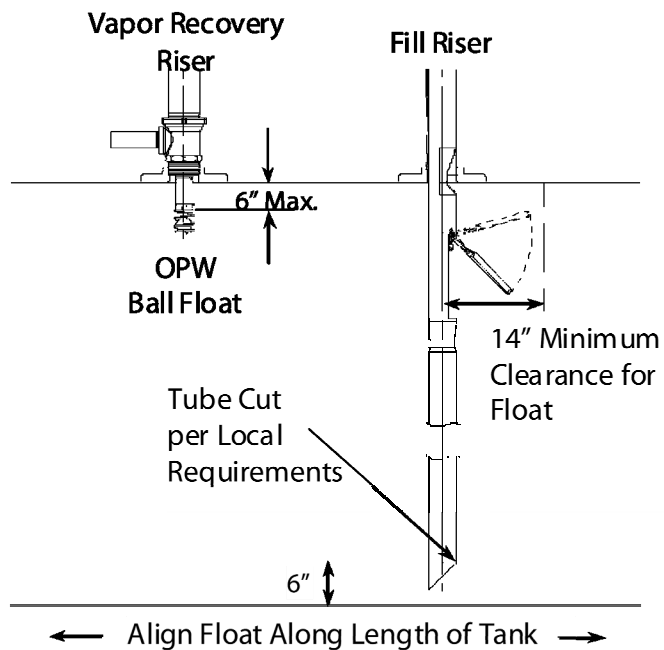

Figure 24
Measuring from the underside of the inlet tube flange, mark the overall length of the drop tube a distance of (B) minus 6". Determine dimension (B) from the measurements taken in Step 1, Figure 1 (Top of the Face Seal Adapter below the drain valve outlet in the spill container to the bottom of the tank). Saw off the excess tube at a 45-degree angle or per local codes or requirements and file off any sharp burrs (Refer to Figure 24).
CAUTION: No obstruction in the tank can be within 14" from the center of the riser pipe or the valve may not operate properly (See Figure 24).